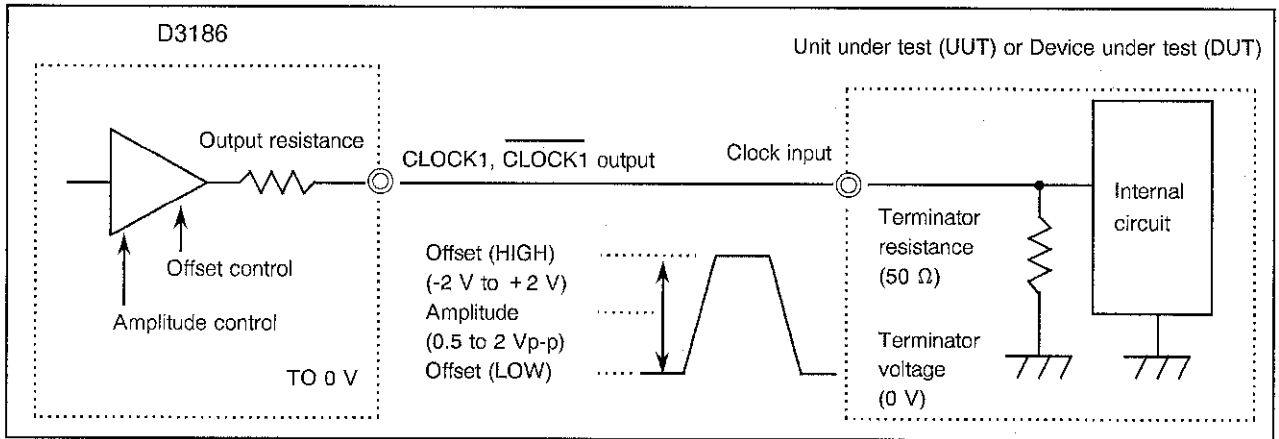

Figure 4-4 CLOCK1 and CLOCK1 Output, DC Connection, 0 V Termination
- (a) When the terminator voltage of the UUT/DUT clock input is 0 V (see Figure 4-4.):